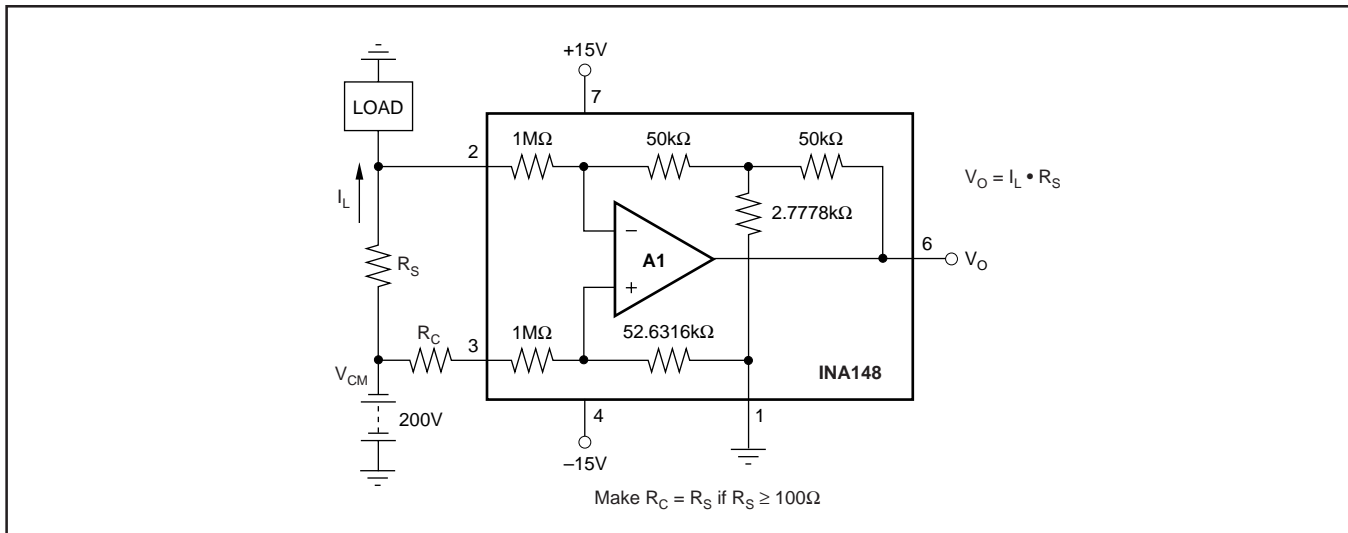

FIGURE 4. Shunt-Resistor Current Measurement Circuit.
Figure 4 shows a common application—measuring power supply current through a shunt resistor (RS). A shunt resistor creates an unbalanced source resistance condition that can degrade a differential amplifier's common mode rejection.